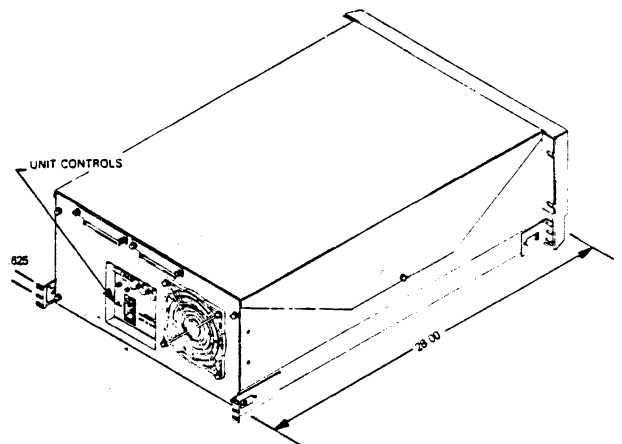

Figure 11-3. Slide Mounted Enclosure
- Slide Mounted Enclosure (See Figure 11-3).